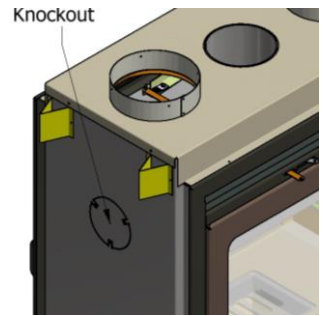

Figure 23 – Knockout
2. Knock on a knockout of the fireplace to clear an opening (Figure 23)